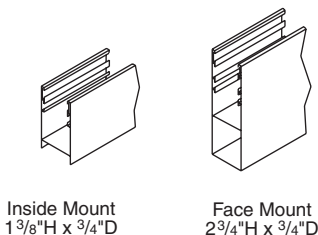

Figure 8
⑥ Install sill channel between side channels using appropriate fasteners (see Fig. 8). On some large LightBlocs, the sill channel is replaced by an angle. *NOTE: Be sure of a centered and snug fit between side channels.*